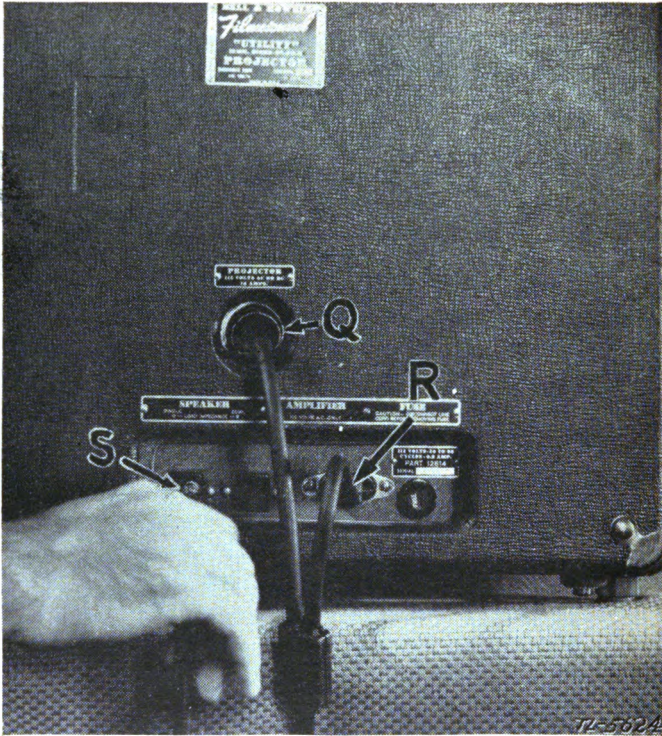

FIGURE 13.—Bell & Howell electrical connections.
(3) *Bell & Howell.*—Insert the female plug of the *Y*-power cable in the upper receptacle *Q* (fig. 13). Insert the male plug in the lower (amplifier) receptacle *R*. Connect speaker to projector by inserting the speaker cable plug in receptacle *S* on projector. Insert power plug into power source receptacle.